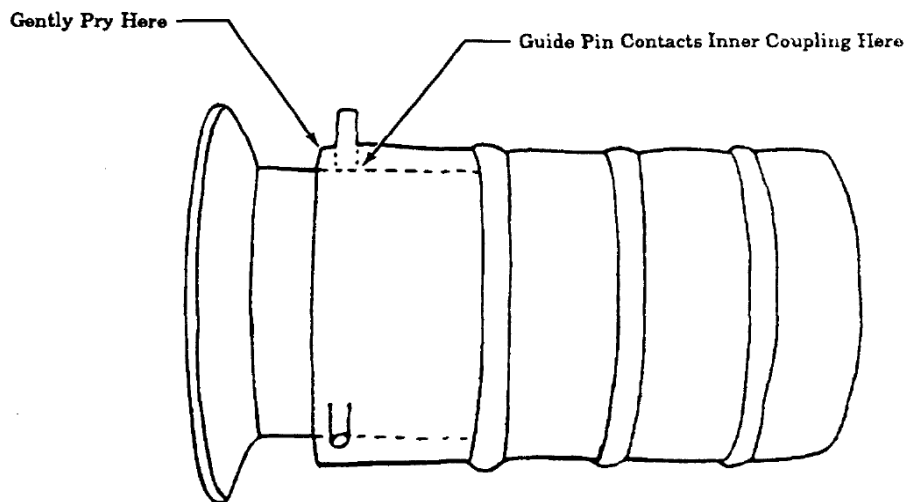

Figure 7: Coupling (Part Number MS17833 and MS 17835)
7. Inspect coupler assemblies for distortions, out-of-round conditions, flat spots resulting from dragging and cracks. After visual inspection of couplers, tap lightly with a hammer. If ringing sound is not heard, inspect and ensure that the guide pins are not touching the inner portion of the coupler (reference Figure 7). If the pins are touching the inner portion, gently pry pins away and ring test again. If ringing sound is heard, the coupler is good. Torque coupler half retaining screws or clamps.